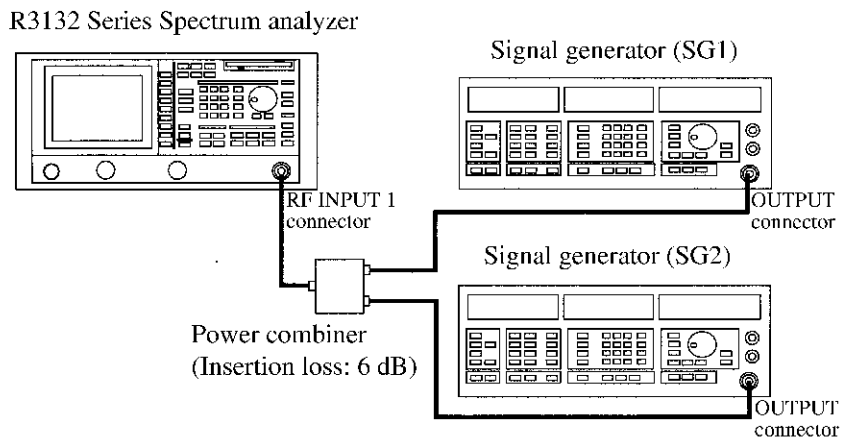

Figure 2-39 Setup for Measuring Intermodulation
- Connect the signal generators as shown in Figure 2-39.